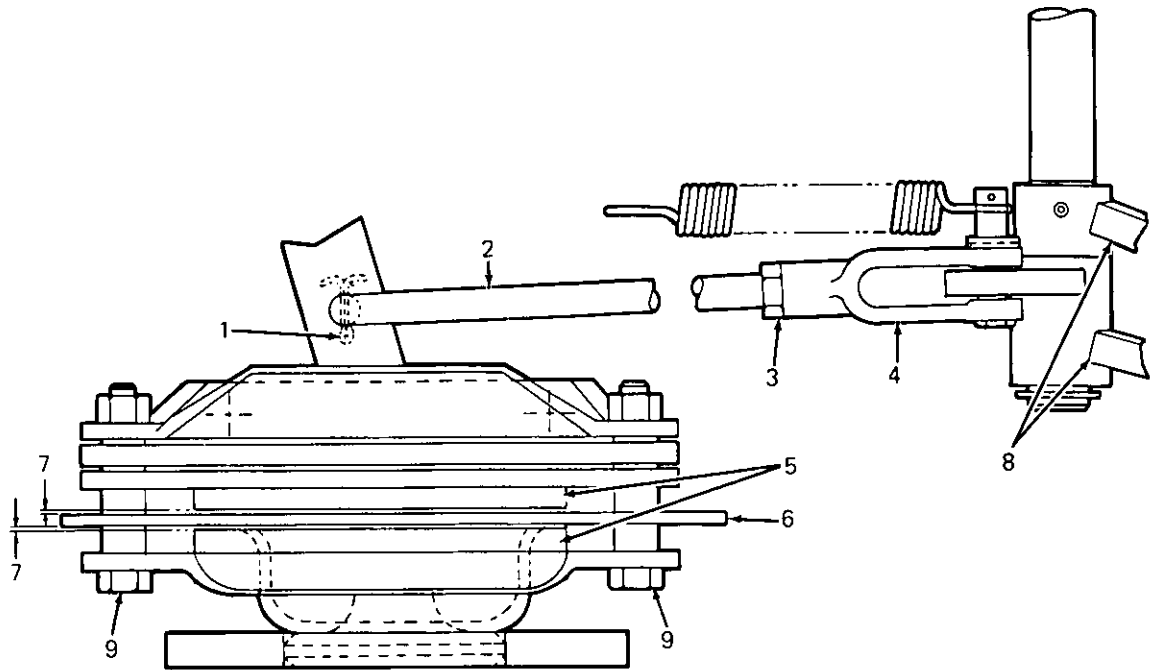

Figure 20. Right Side Shown
2. With the 1 inch thick wood block installed, the brake disc pads should be applying a light amount of friction against the brake disc rotor. If they are not, the brakes need adjustment (see Figure 20).
(See Figure 20)